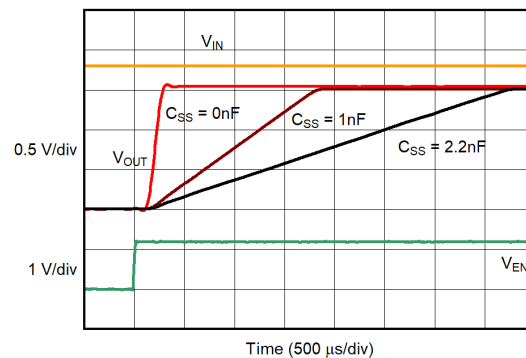

Figure 7-4. Turn-On Response
3. Select a minimum of a 2.2-μF ceramic output capacitor. Increased output capacitance helps the output load transient response. Figure 7-4 gives examples of the load transient response with different output capacitor values and types.